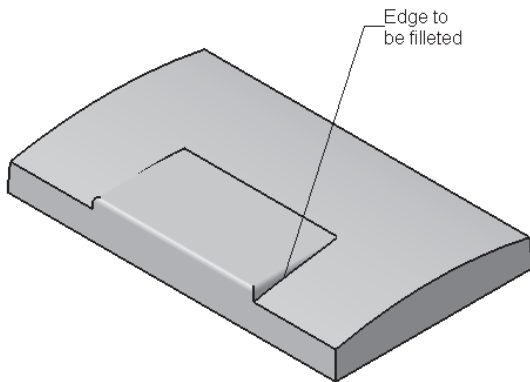

**Figure 5-94** Edges to be selected
- d. Fillet the edges of the model, refer to Figures 5-94 through 5-99.
2. Select the edges shown in Figure 5-94 and set the value of the **Radius** spinner to **3**.